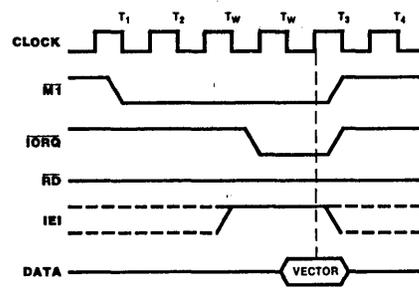

Figure 17. Interrupt Acknowledge Cycle
**Interrupt-Acknowledge Cycle.** After receiving an interrupt-request signal from an SIO (INT pulled Low), the Z-80 CPU sends an interrupt-acknowledge sequence (MI Low, and IORQ Low a few cycles later) as in Figure 17.